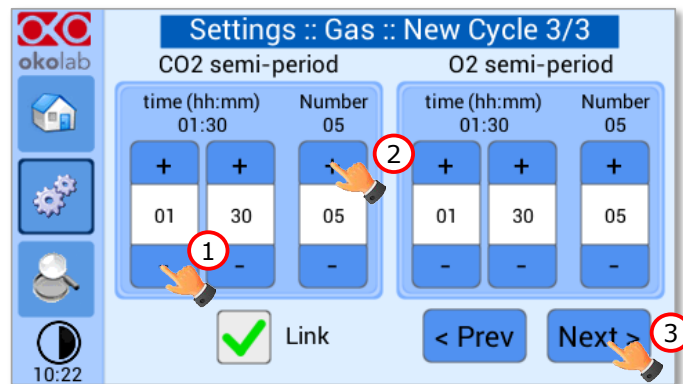

Figure 37. Set the duration of the Gas Cycle.
2. Set the duration in hours and minutes you want the system to dwell on each concentration (1 in Figure 37).
3. Set the number of cycles (*Number*) you want the system performs (2 in Figure 37). Finally press *Next*> (3 in Figure 37).